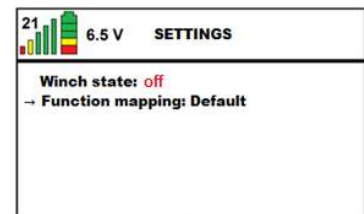

Figure: 16
- Then open **settings** by pressing the ✓ button and use the ▼ button to go to **function mapping** (see figure 16).
- Then press the ► button to set the **custom** function. (see figure 16).